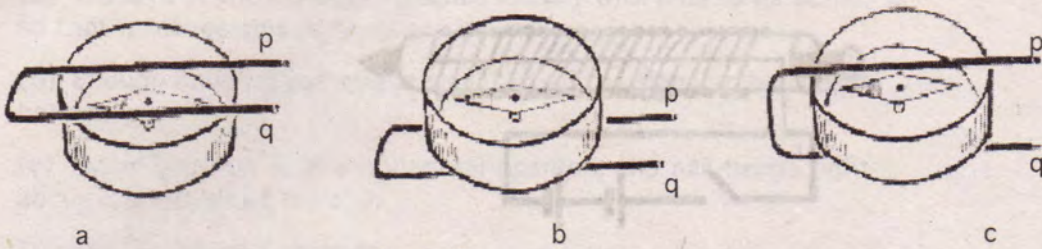

Figure-6
- (a) the folded wire is above the compass (Figure-6 a),
- (b) the folded wire is under the compass (Figure-6 b),
- (c) the compass is placed between the two folds of the wire (Figure-6 c). (7)